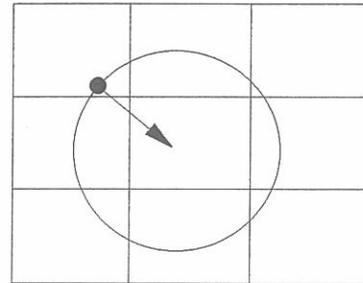

FIG 18
9. With the balance controls (6 and 7), move the dot to the center of the circle scribed. See Figure 18.